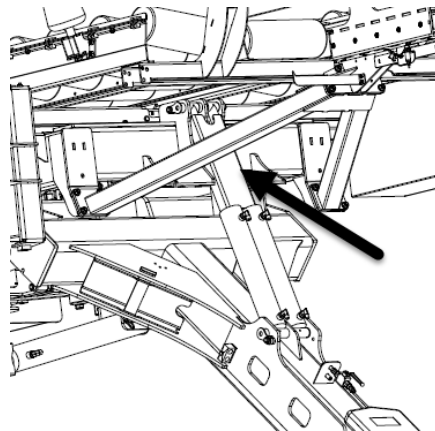

Figure 48 — Setting Up the Safety Stand
2. Place the stand on the cylinder rod, as shown in Figure 48.